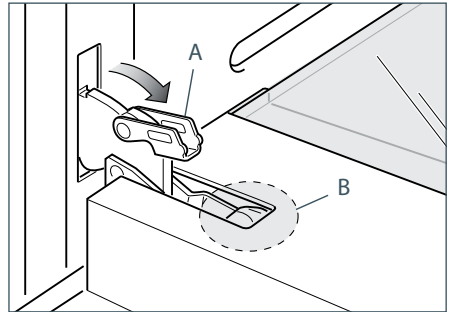

Fig.62b
- 2 Open the lever "A" completely on the left and right hinges (Fig. 62b).